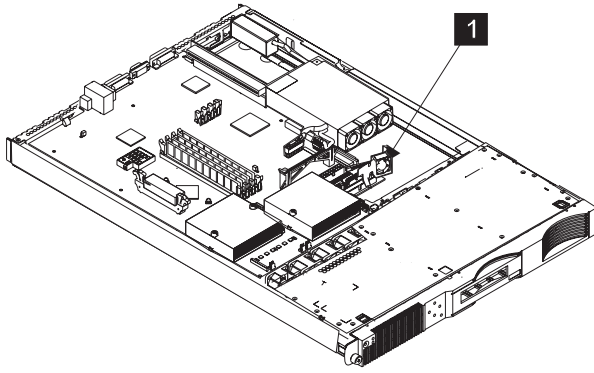

Figure 116. Removing a SAN Volume Controller 2145-4F2 disk drive fan
5. Remove the entire fan assembly **1** by sliding the right-hand side of the disk drive fan forward. Then, pull the assembly away from the clip. See Figure 116 on page 374.